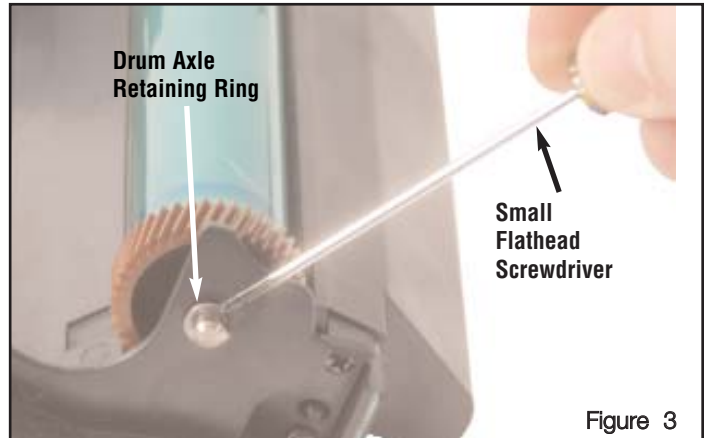

Figure 3
- a. Using a small flathead screwdriver remove the Drum Axle Retaining Ring from the large gear side of the Drum. See Figure 3.